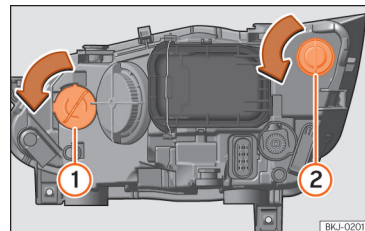

Fig. 55 In the engine compartment: turn signal light bulb ① and DRL (daytime running light) bulb ②.
- Turn the bulb holder »» Fig. 55 ① or ② to the left and pull.